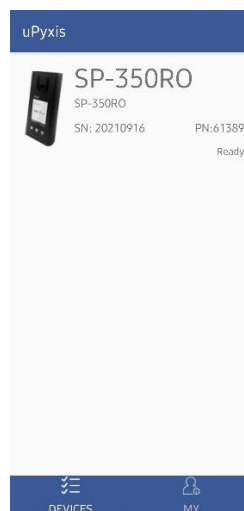

Figure 20.
4. If the connection is successful, the SP-350RO and its Serial Number (SN) will be displayed (Figure 20).